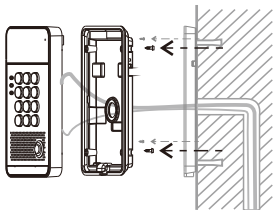

Figure 9
- Use the 4 screws to tighten the main part of intercom on the back panel as shown in Figure 9.